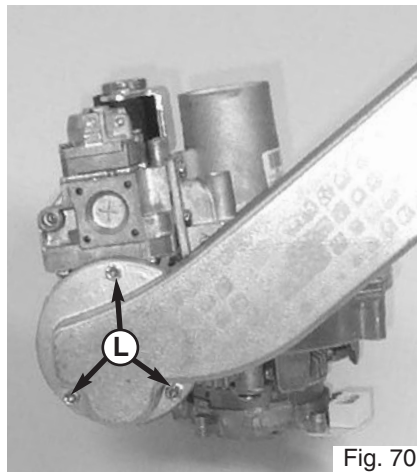

Fig. 70
3. Unscrew the three screws L on the air/gas pipe and remove (Fig. 70);